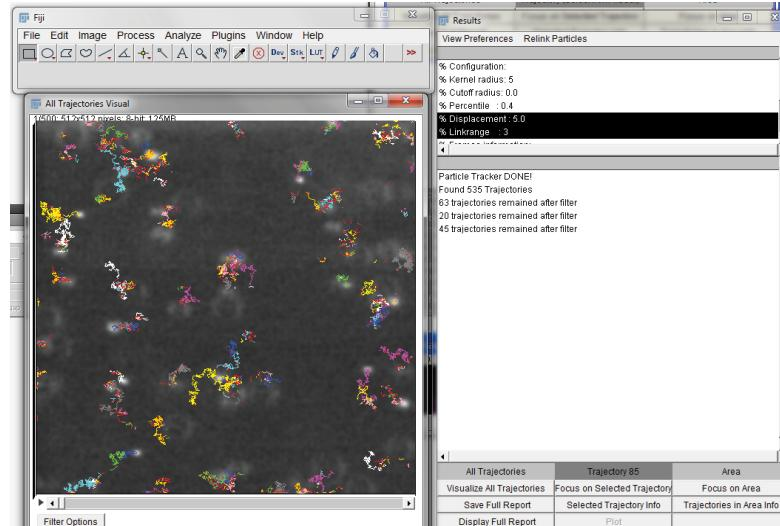

Figure 13. Selected 45 trajectories plotted.
- 10) Window displays an overview of all trajectories found (see Figure 13). It cannot be saved! It is usually hard to make sense of so much information. One way to reduce the displayed trajectories is to filter short trajectories. Click on the Filter Options button to filter out trajectories under a given length. Enter 75 and click OK. (Be careful, if you select to long length you might end up with very few trajectories and lose information!).